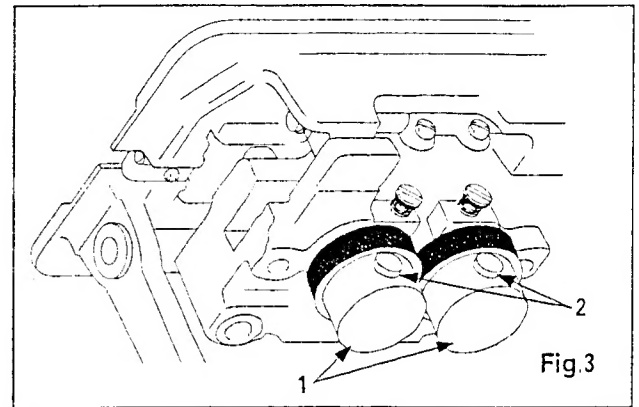

Fig.3
Tip machine back on its hinges, remove rubber caps (2) shown in Fig. 3 from oil tanks (1) and fill the oil tank.